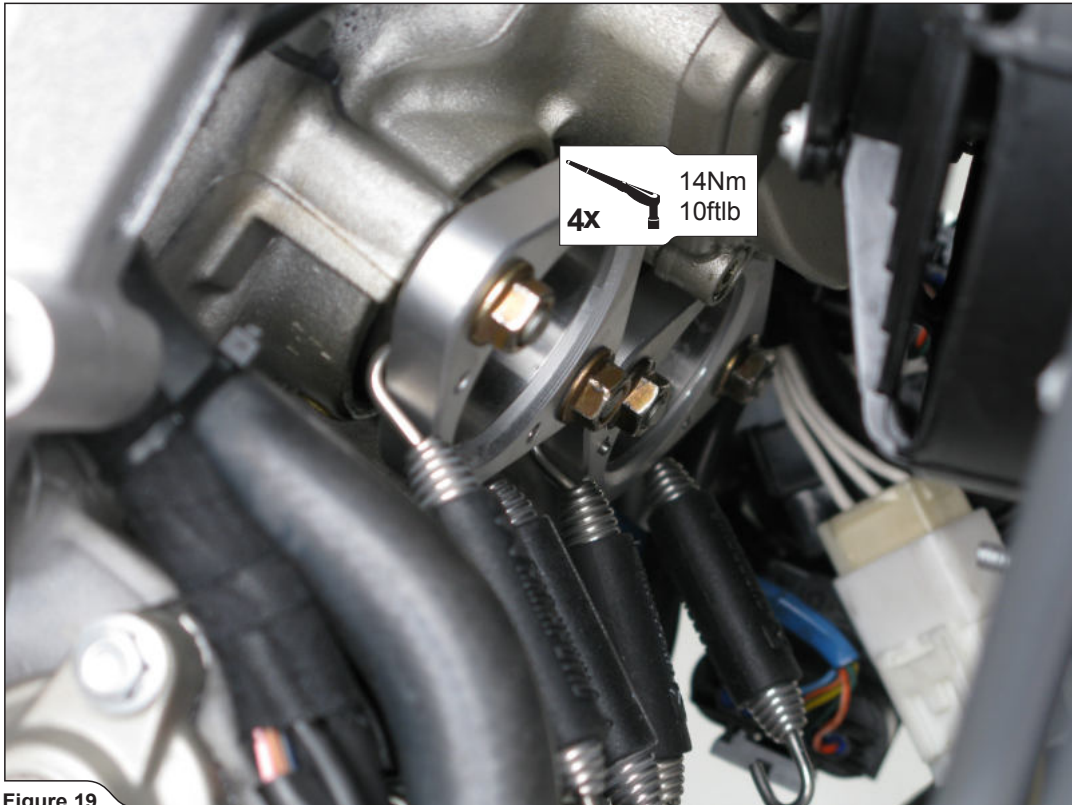

Figure 19
3. Set up and tighten the front headers' flanges together with the springs and sleeves onto the front cylinder head, using stock nuts; make sure you orient the flanges and springs as shown (Figure 19).